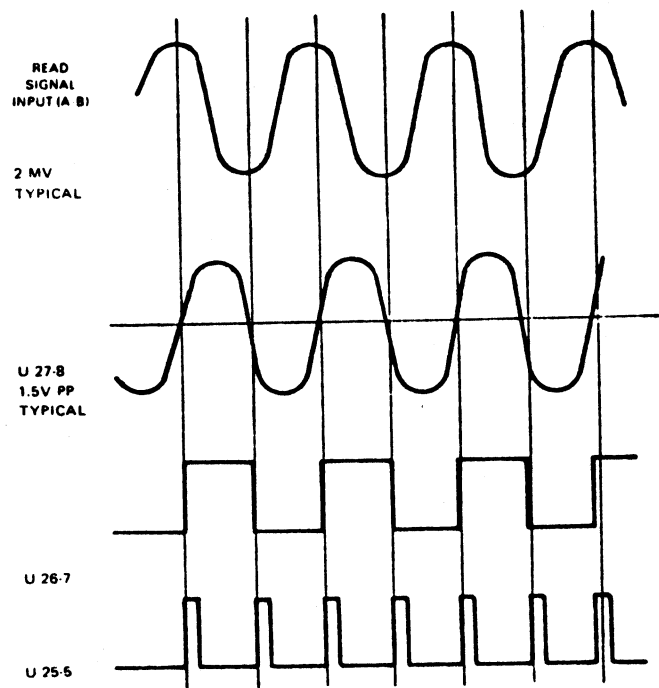

Figure 3-9. Single C Read Waveforms
- b. Differentiator. The differentiator consists of U28 and its associated components. This element functions as a peak detector that generates the signal illustrated in the timing diagram of Figure 3-9, which shows the read waveforms for a sequence of "1's". Thus the output of U28 crosses the zero base-line each time a peak is detected on the input signal. Capacitor C25 yields the required 6 dB per octave rising characteristic of a differentiator. Resistor R56 terminates this characteristic at 250 kHz. This stage has an approximate gain of 40 at 125 kHz.
- e. Comparator. The output of the amplifier is processed by low-pass filter network R63, R64, C35, thus providing additional noise rejection for this stage. Comparator U26 converts the essentially sinusoidal wave shape input into a square wave. Figure 3-9 shows this waveform conversion and timing.
- g. Bidirectional One-Shot System. The operation of exclusive "OR" gate U24-8 is identical to that described for U24-6. Every change in state of U23-9 (every data transition) will cause a high-going pulse to be generated by U24-8. Element U25-5, a 0.9-microsecond one-shot, will fire for all transitions generating RDATA (see Figure 3-9). R69 and C39 determine the one-shot pulse width. U11 holds U25 reset whenever the drive is not selected or is in a write mode. This prevents noise from being transmitted to the interface.